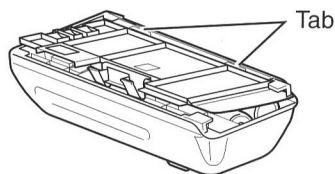

Figure 4.7
3. Align the two (2) tabs on the battery case cover, then close the cover until the locking tab clicks (Figure 4.7).